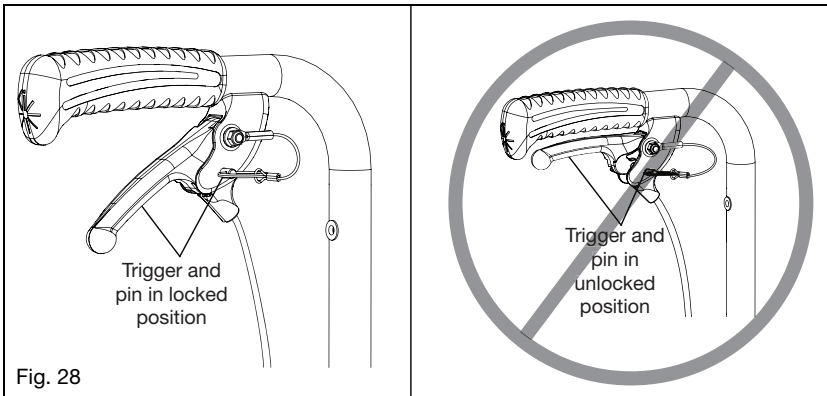

Fig. 28
- a. Squeeze the triggers (Fig. 28:A).
- a. Unlock the jam nut (Fig. 28:C) from the cable adjuster body (Fig. 28:D) using a 10mm and 3/8" open ended wrench.
- b. Thread the cable adjuster (Fig. 28:B) in or out until the slack in the cable is eliminated such that the trigger has an 1/8" (8mm) of play before it begins to pull the cable.